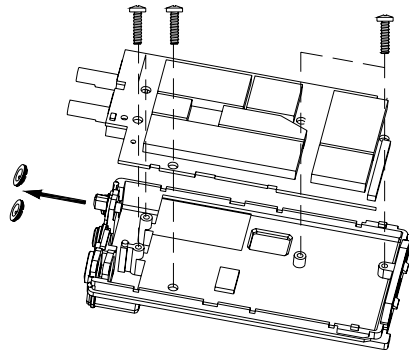

Fig.4
- d. Lift the PCB off. (See fig.4)